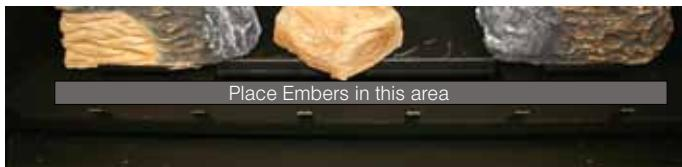

Figure 30g. Placing Embers.
Step 9. Place the Embers as shown in **figure 30g**.